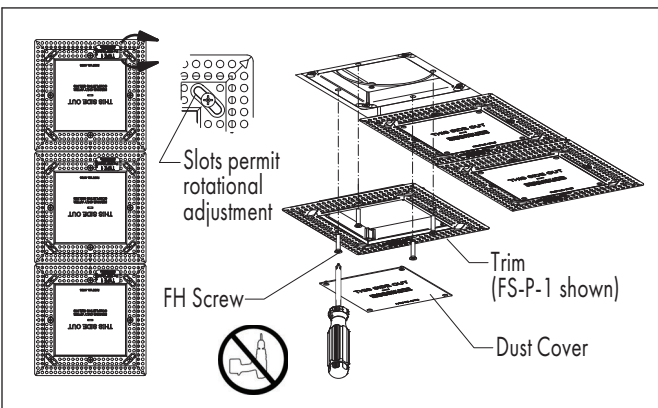

FIG 4.7 Install Trims
Step 6 Install Trim to Housing by hand tightening 4 screws until Trim is secured against ceiling board - FIG 4.7 & 4.8. To avoid warping flanges, using power screw driver is not recommended.